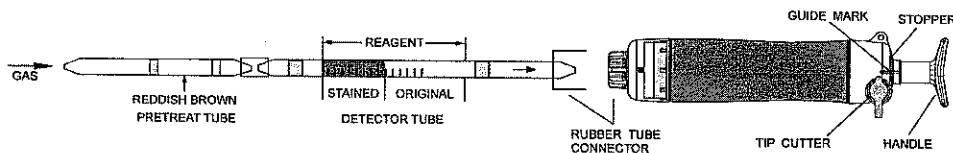

Fig.1
- ① Break both ends of detector tube and pretreat tube, and connect each end of the detector tube and pretreat tube with rubber tube connector as shown in Fig.1.
- ② Insert the detector tube into aspirating pump securely as shown in Fig.1 (Arrow mark shall point to the pump)
- ③ Align the guide marks on the shaft and stopper of the aspirating pump.
- ④ Pull the pump handle at full stroke until it locks and wait for 1.5 minutes or until the completion of sampling is confirmed with the flow indicator of the pump (See descriptions about the flow indicator in the instructions of the pump).
- ⑤ Turn the handle right or left 1/4 and push it back fully without removing the detector tube from the connector. Then repeat step ④ once.
- ⑥ On completion of sampling, read the scale at the maximum point of the stained layer